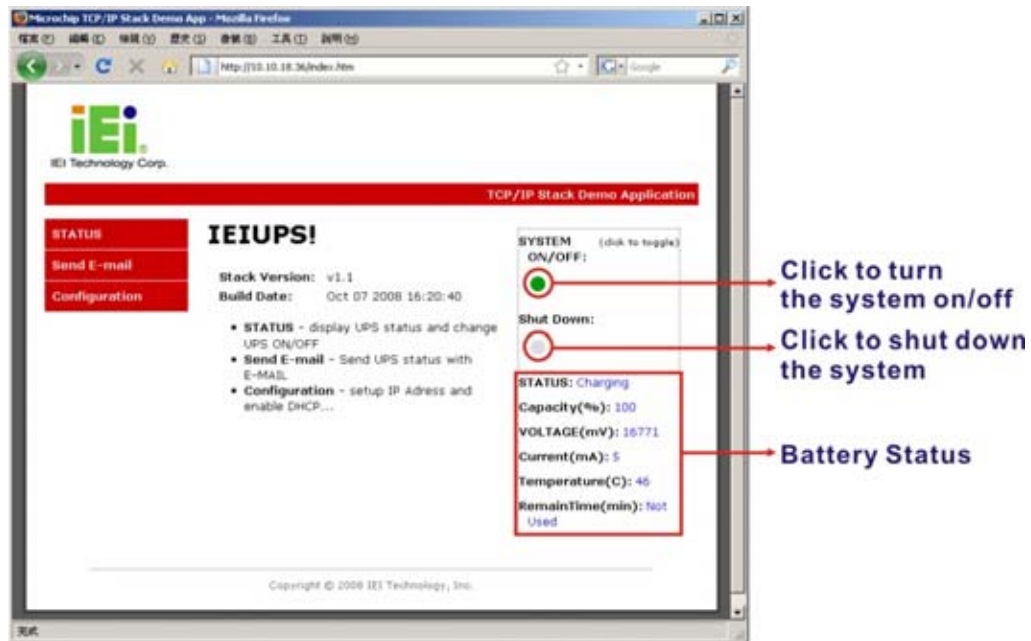

Figure 8-18: Remote Management Web Interface - Status
Step 12: Figure 8-18 shows in a web browser.